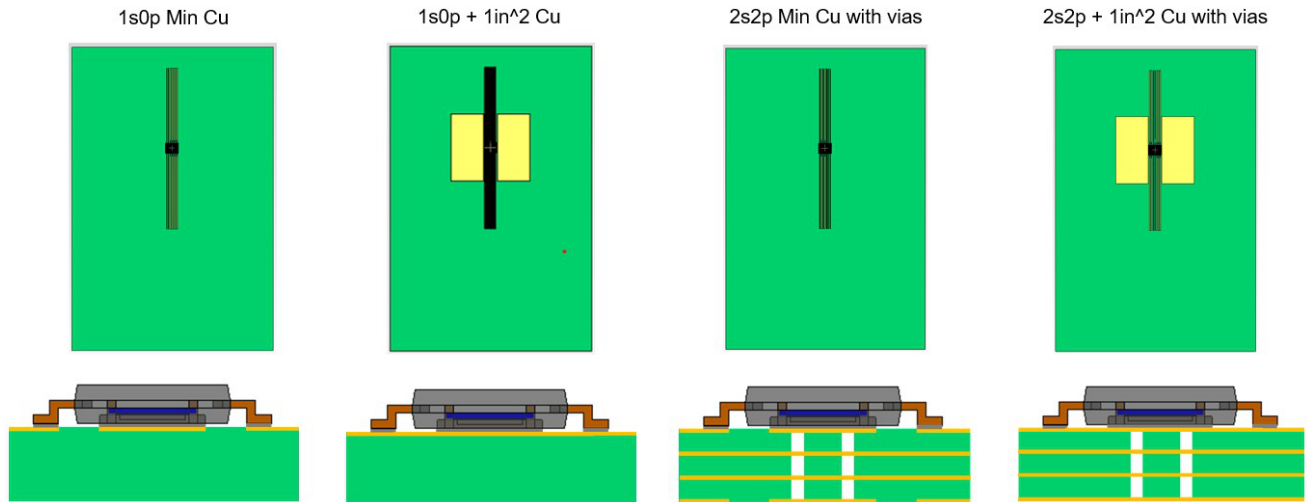

Figure 3. Board Construction for Thermal Performance
5. Board construction based on JEDEC JESD 51-7 for a four layer 2s2p board with natural convection. Vias were added under the exposed pad as shown in Figure 3.